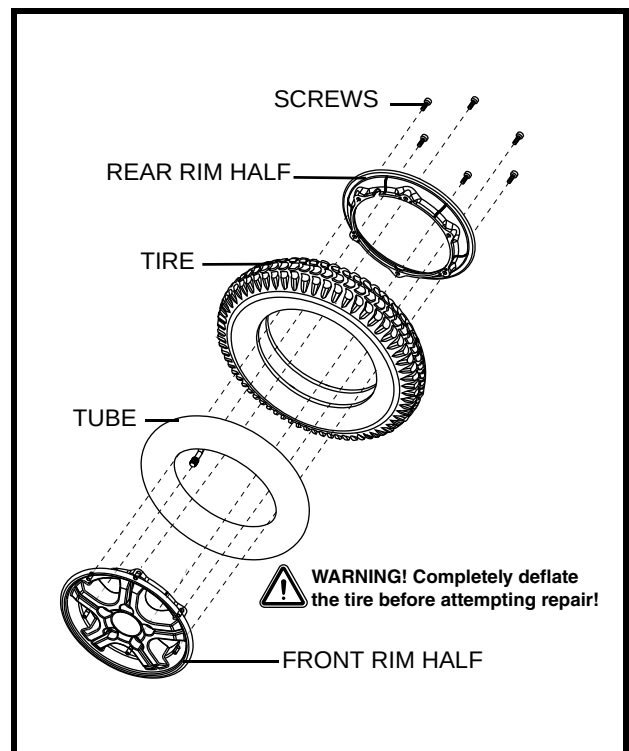

Figure. 21. Drive Wheel Assembly
6. Remove the bolts and separate the rim halves. **See figure 21.**
8. Reassemble the rim halves. **See figure 21.**